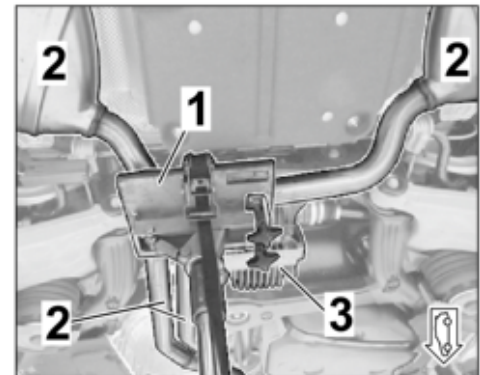

Figure 8
1.3.4 Position **engine and gearbox jack** under exhaust system (in transfer case area). Secure exhaust system against falling with restraining straps. ⇒ *Figure 8*